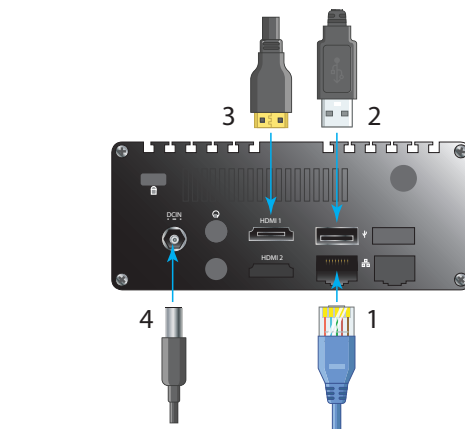

Fig. 1.7
- 8 Connect the cables (reference Fig. 1.7 for each step):